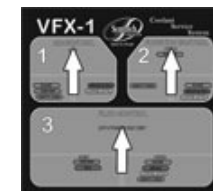

Figure 5
- 14) Return all control panel valves to neutral position. (Fig 5)